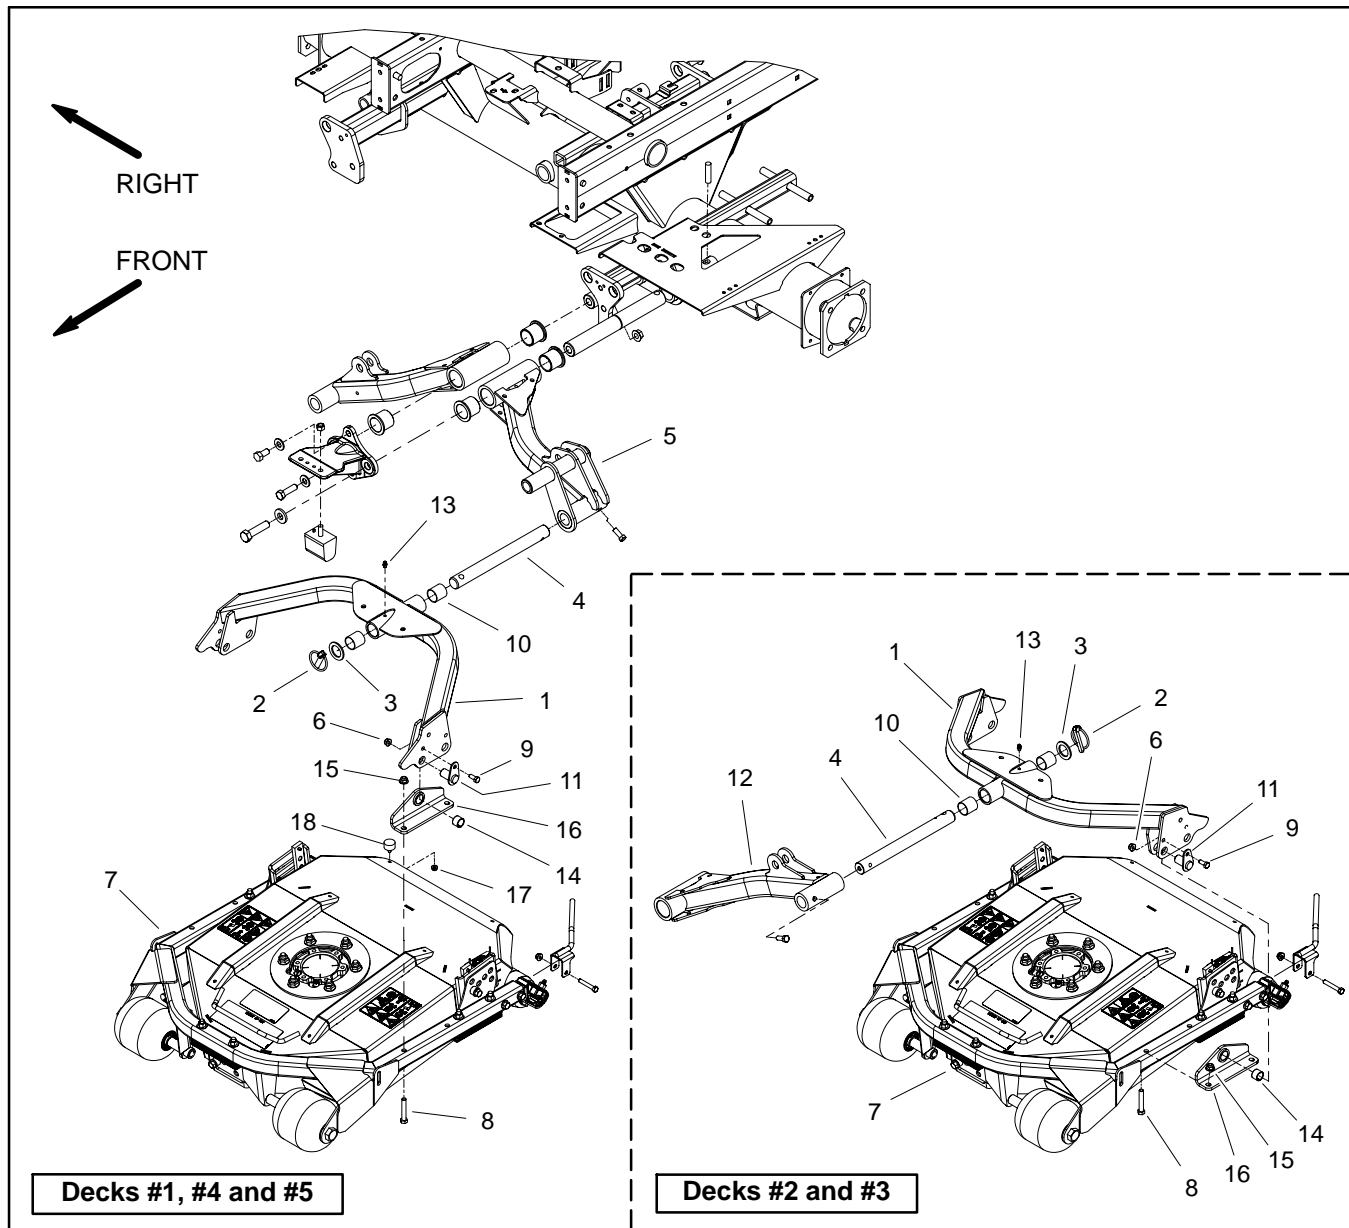

Figure 18
Removal (Fig. 18)
4. Disassemble carrier frame as needed using Fig. 18 as a guide.
Installation (Fig. 18)
1. Assemble carrier frame as needed using Fig. 18 as a guide.